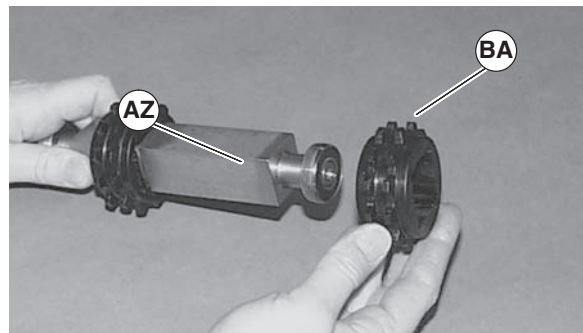

Figure 34
2. Slide free moving sprocket(s) (Figure 34, item BA) off the end of pulley (AZ).